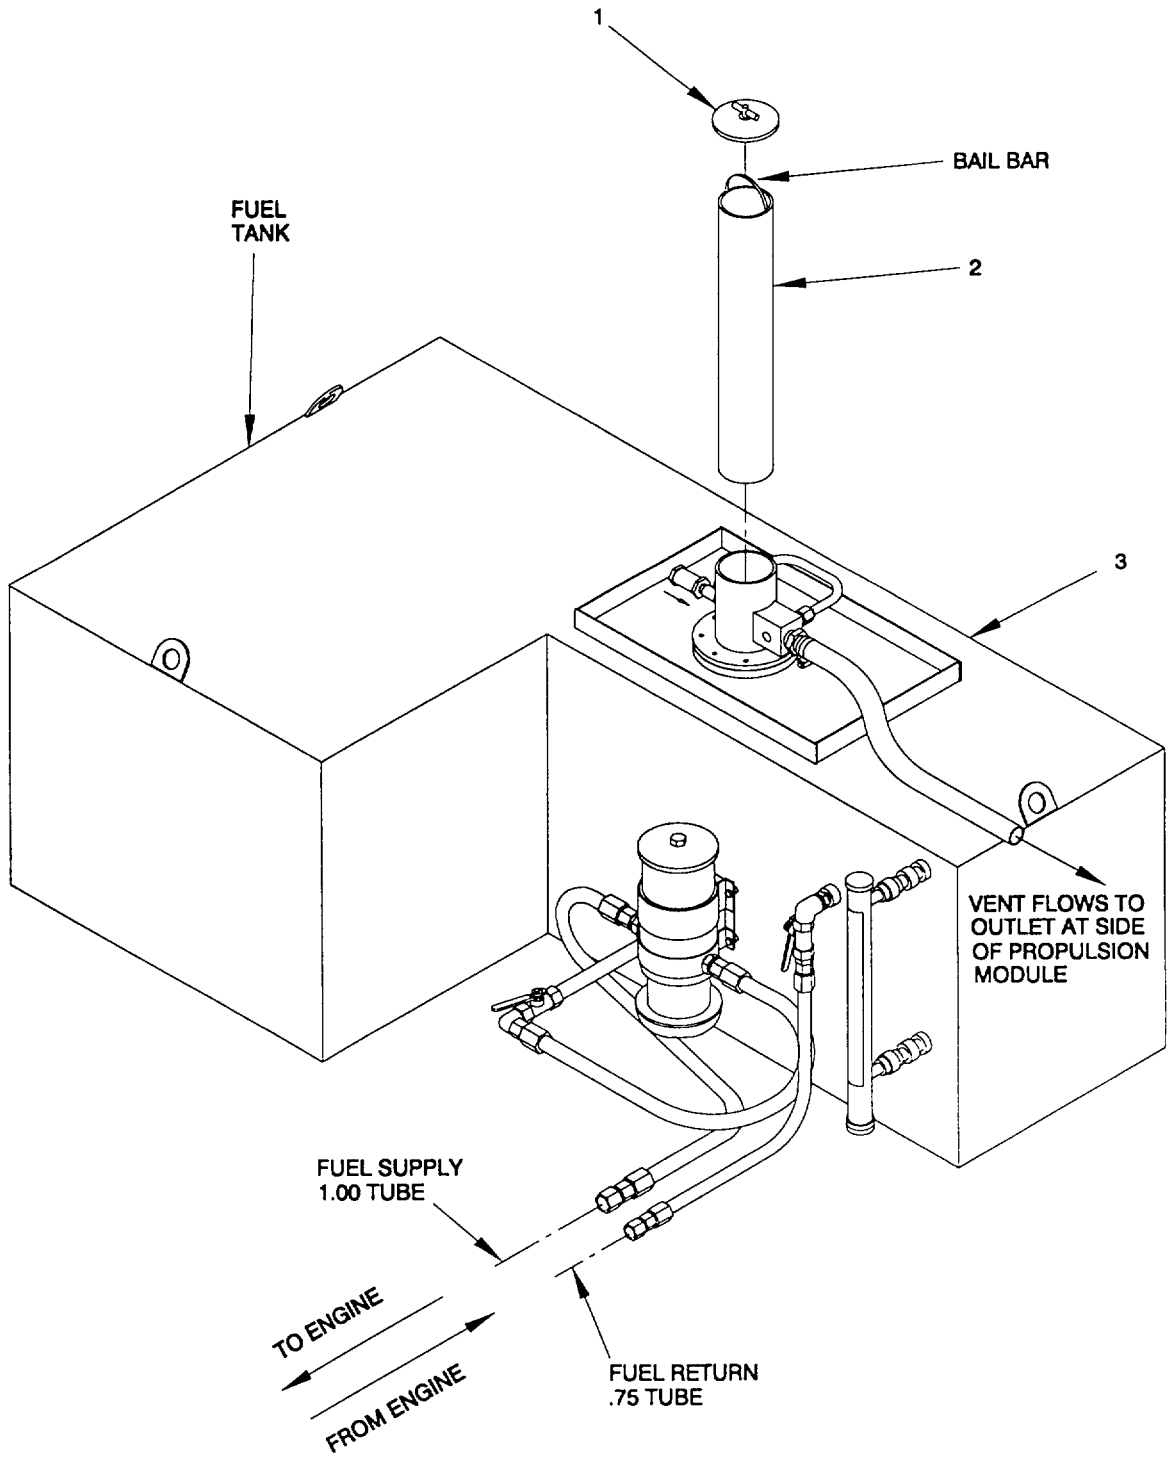

Figure 2-41. Filler neck strainer, Remove/Install
a. Remove. (figure 2-41)
- (1) Remove cover (1) from tank (3).
- (2) Lift out filler neck strainer (2), using bail bar.
- (1) Clean strainer (2) to free contaminants from screen (4). Ensure no contaminants are present.
- (2) Dispose of contaminated fuel in accordance with proper military practices.
b. Install. (figure 2-41)
- (1) Install filler neck strainer (2) into tank (3) filler neck.
- (2) Install cover (1) on tank (3).